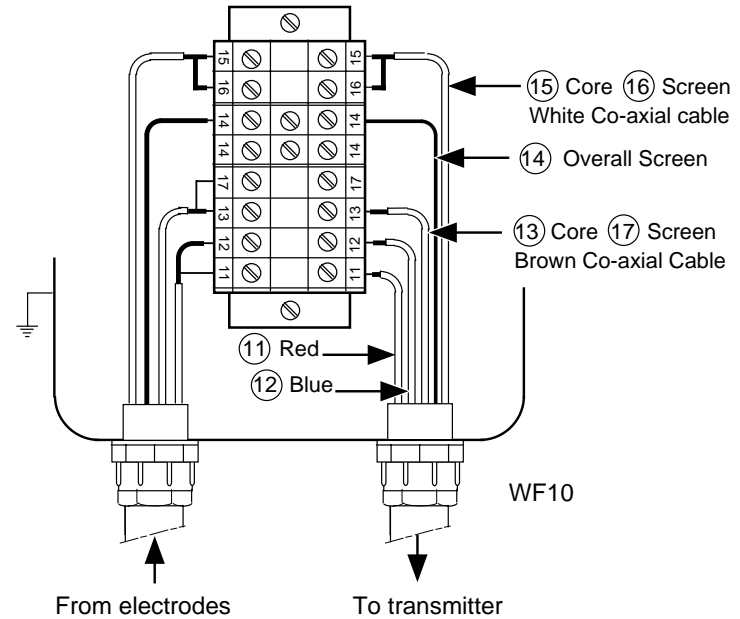

Fig. 1. Connection box BA10
- 1 grommet which can be mounted in a gland to provide a waterproof sealing when 3 electrode cables and earth connection are used (see fig. 1),